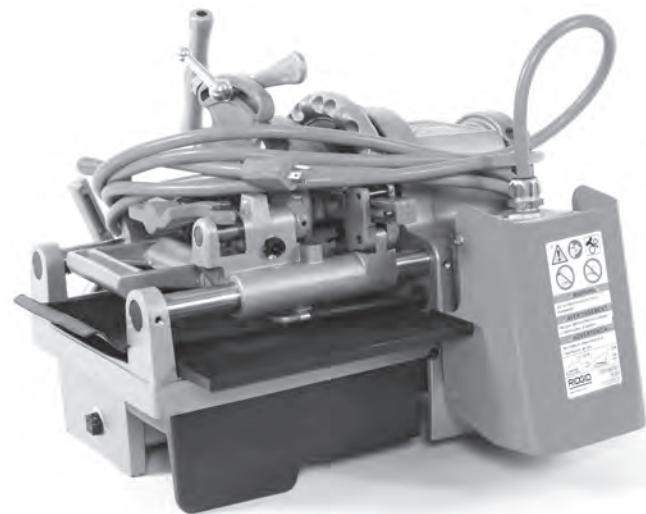

Figure 15 – Machine prepared for Transport
- Make sure that the ON/OFF (I/O) switch is in the OFF (O) position and the cord is unplugged from the outlet.
- Coil up the power cord and foot switch cord and hook in the cord wrap. *Figure 15.*